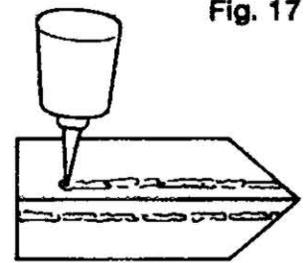
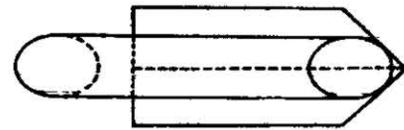

Fig. 17
Fig. 18
- J Lay a line of glue on each of the Support Bulkhead Tubes, as shown in Fig. 17, and set the Strike Vehicle Mounting Tube in place as shown in Fig. 18, allow the assembly to dry.
- M Turn over the Support Structure (Strike Vehicle Mounting Assembly) and apply glue to the underside of the Support Bulkhead Tubes, (as was done in Fig. 17).